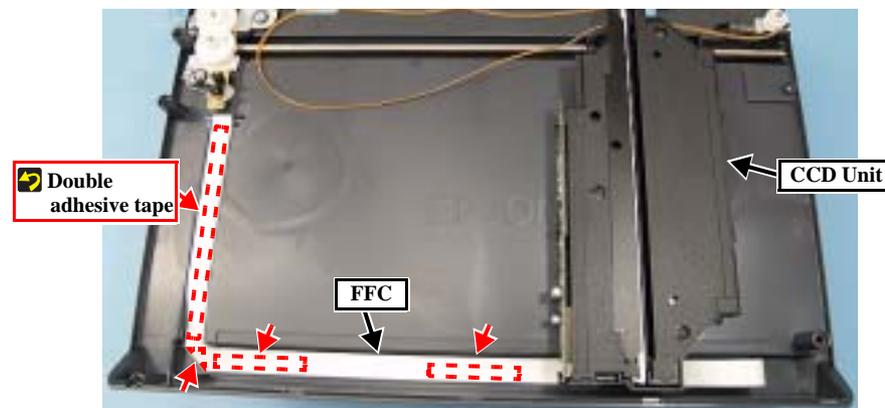

Figure 4-44. Removing the CR Assy
3. Remove the CCD Unit together with the FFC and the CR Shaft. (Fig. 4-44)
- When replacing the CCD Unit, the FFC is to be replaced together. In installation, stick the FFC on the Lower Housing properly so that it is free from floating. (Fig. 4-44)